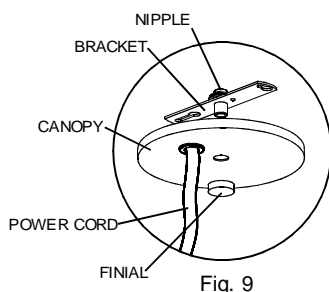

Fig. 9
19. Make a propriate wiring connections and attach the canopy to the junction box using the bracket / nipple / finial assembly (Fig. 9).